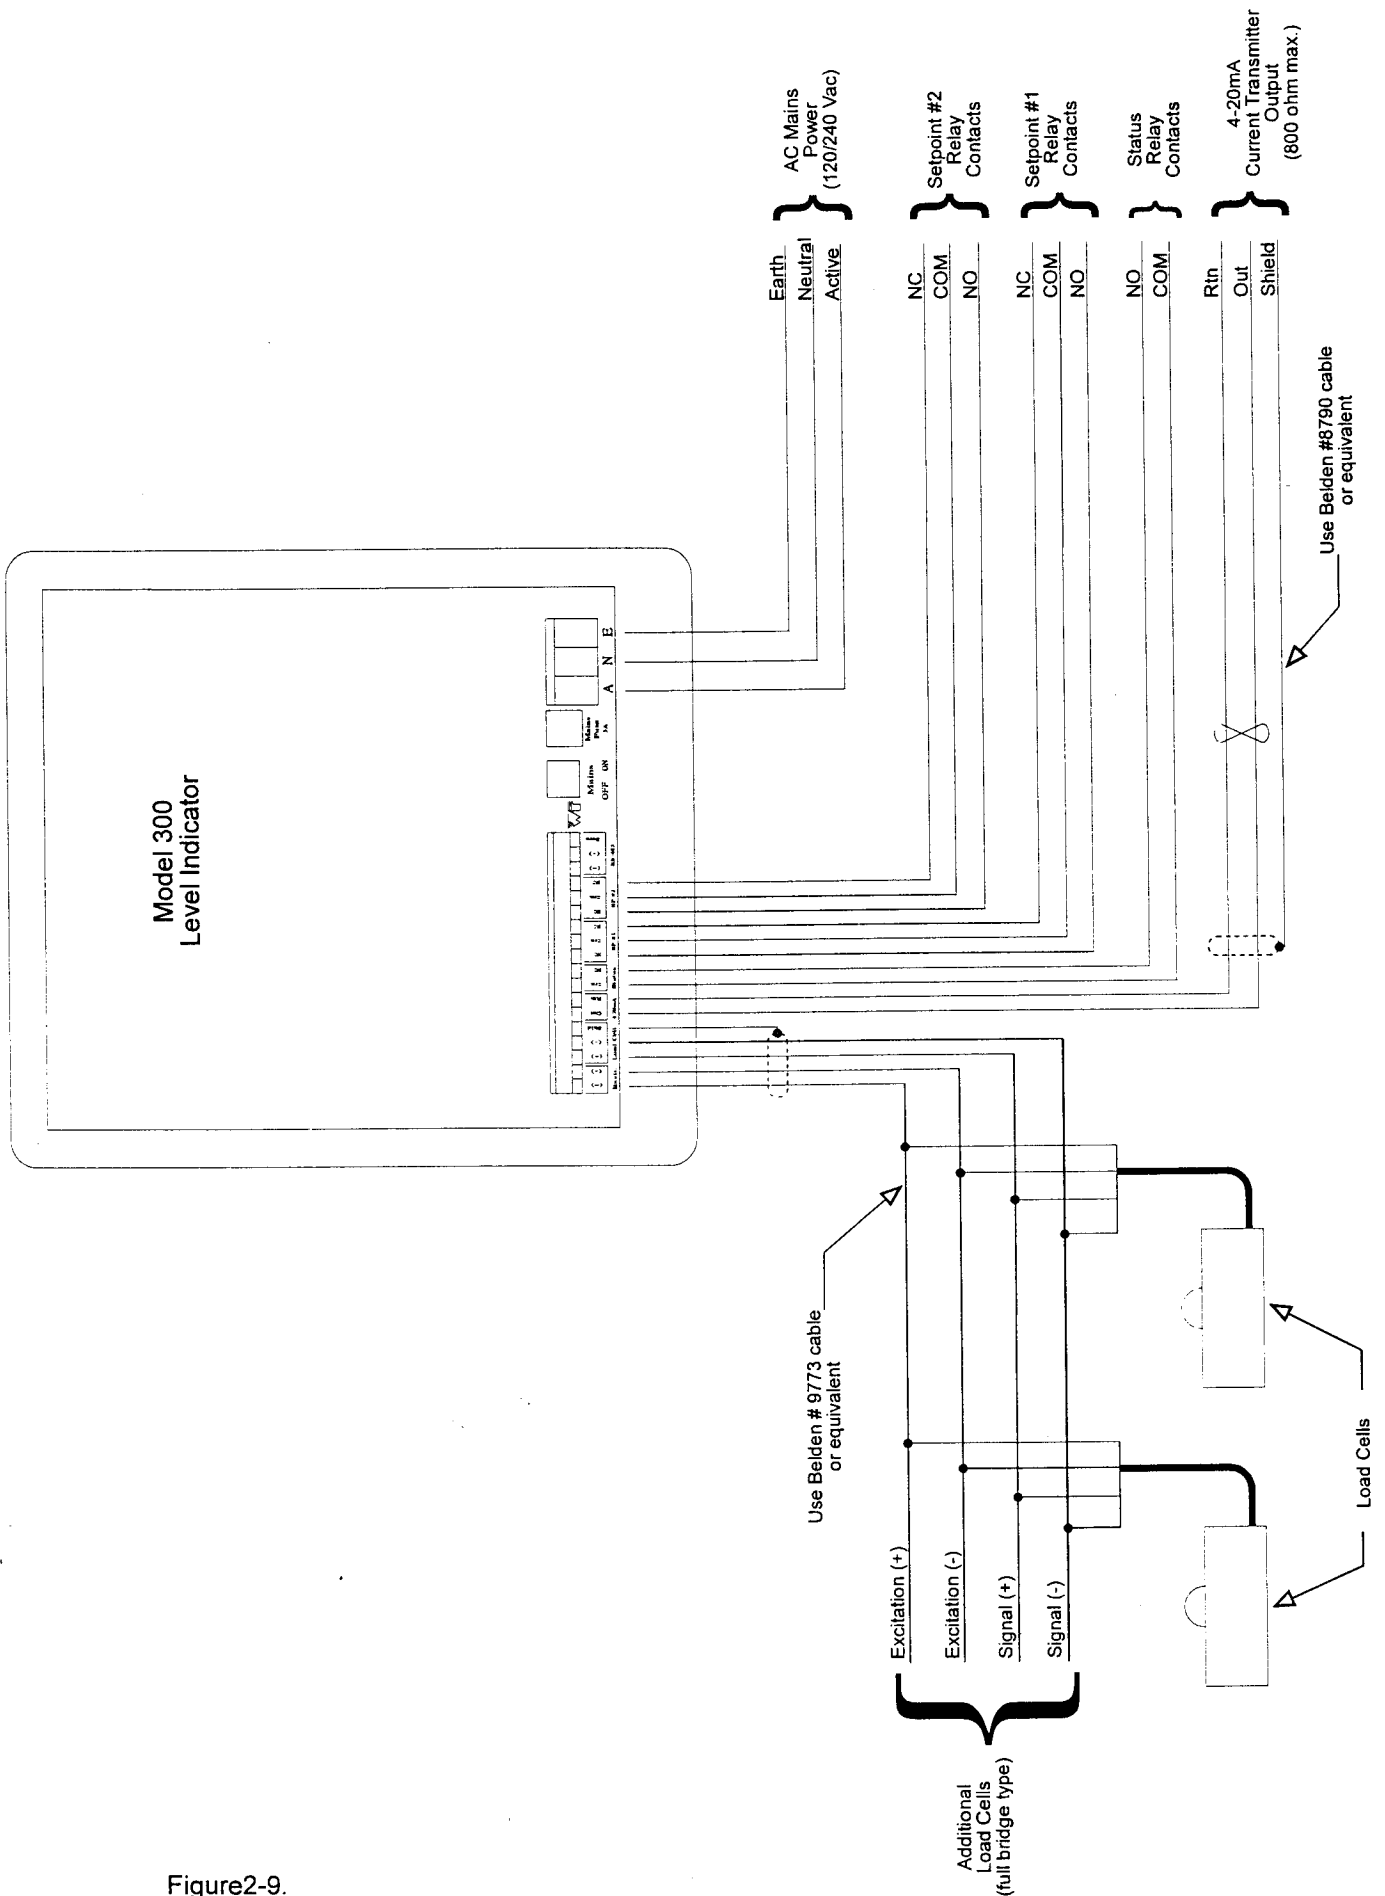
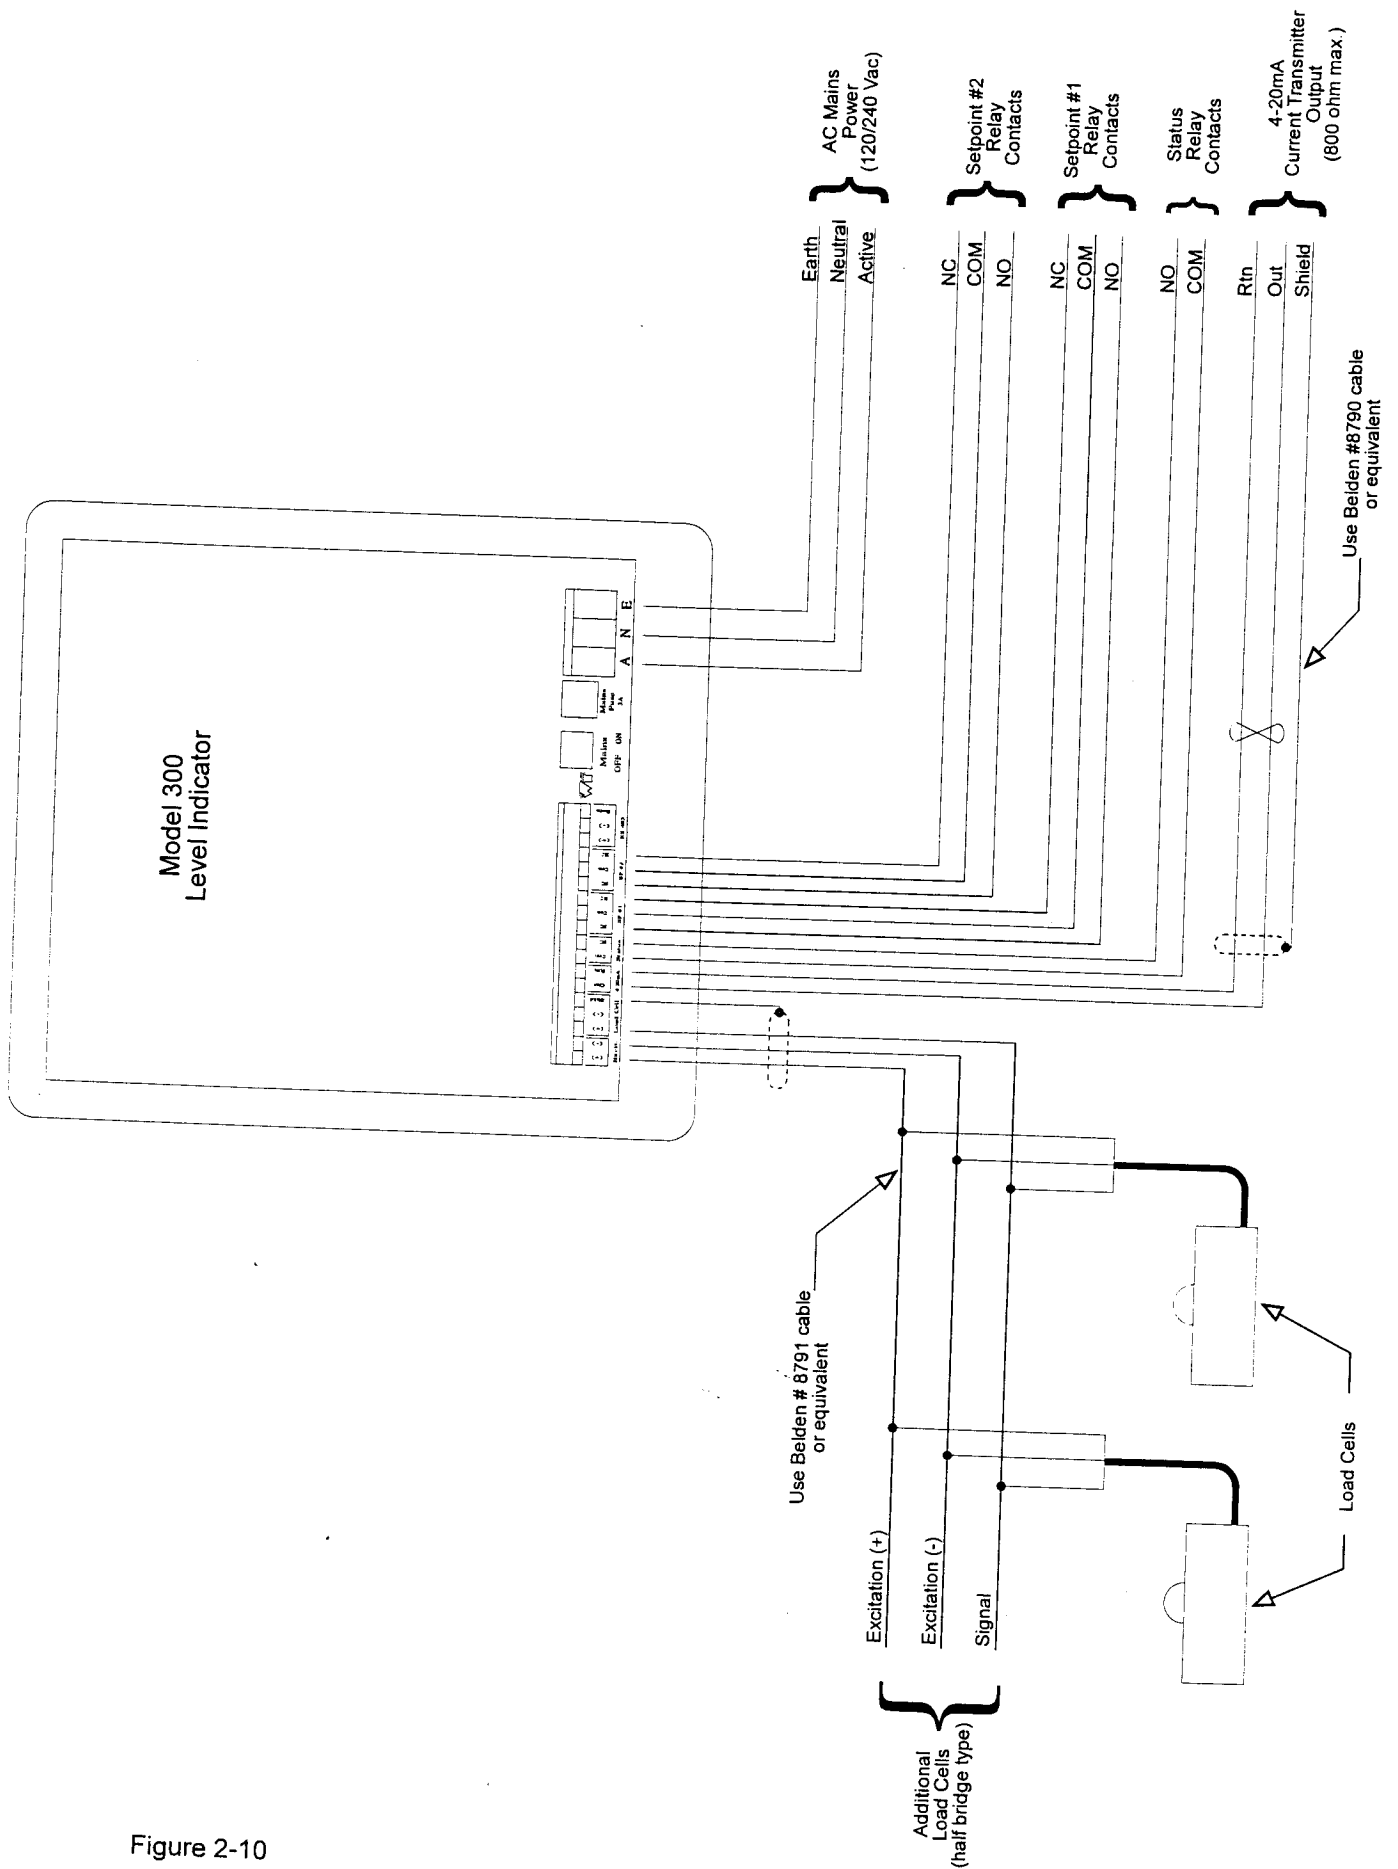
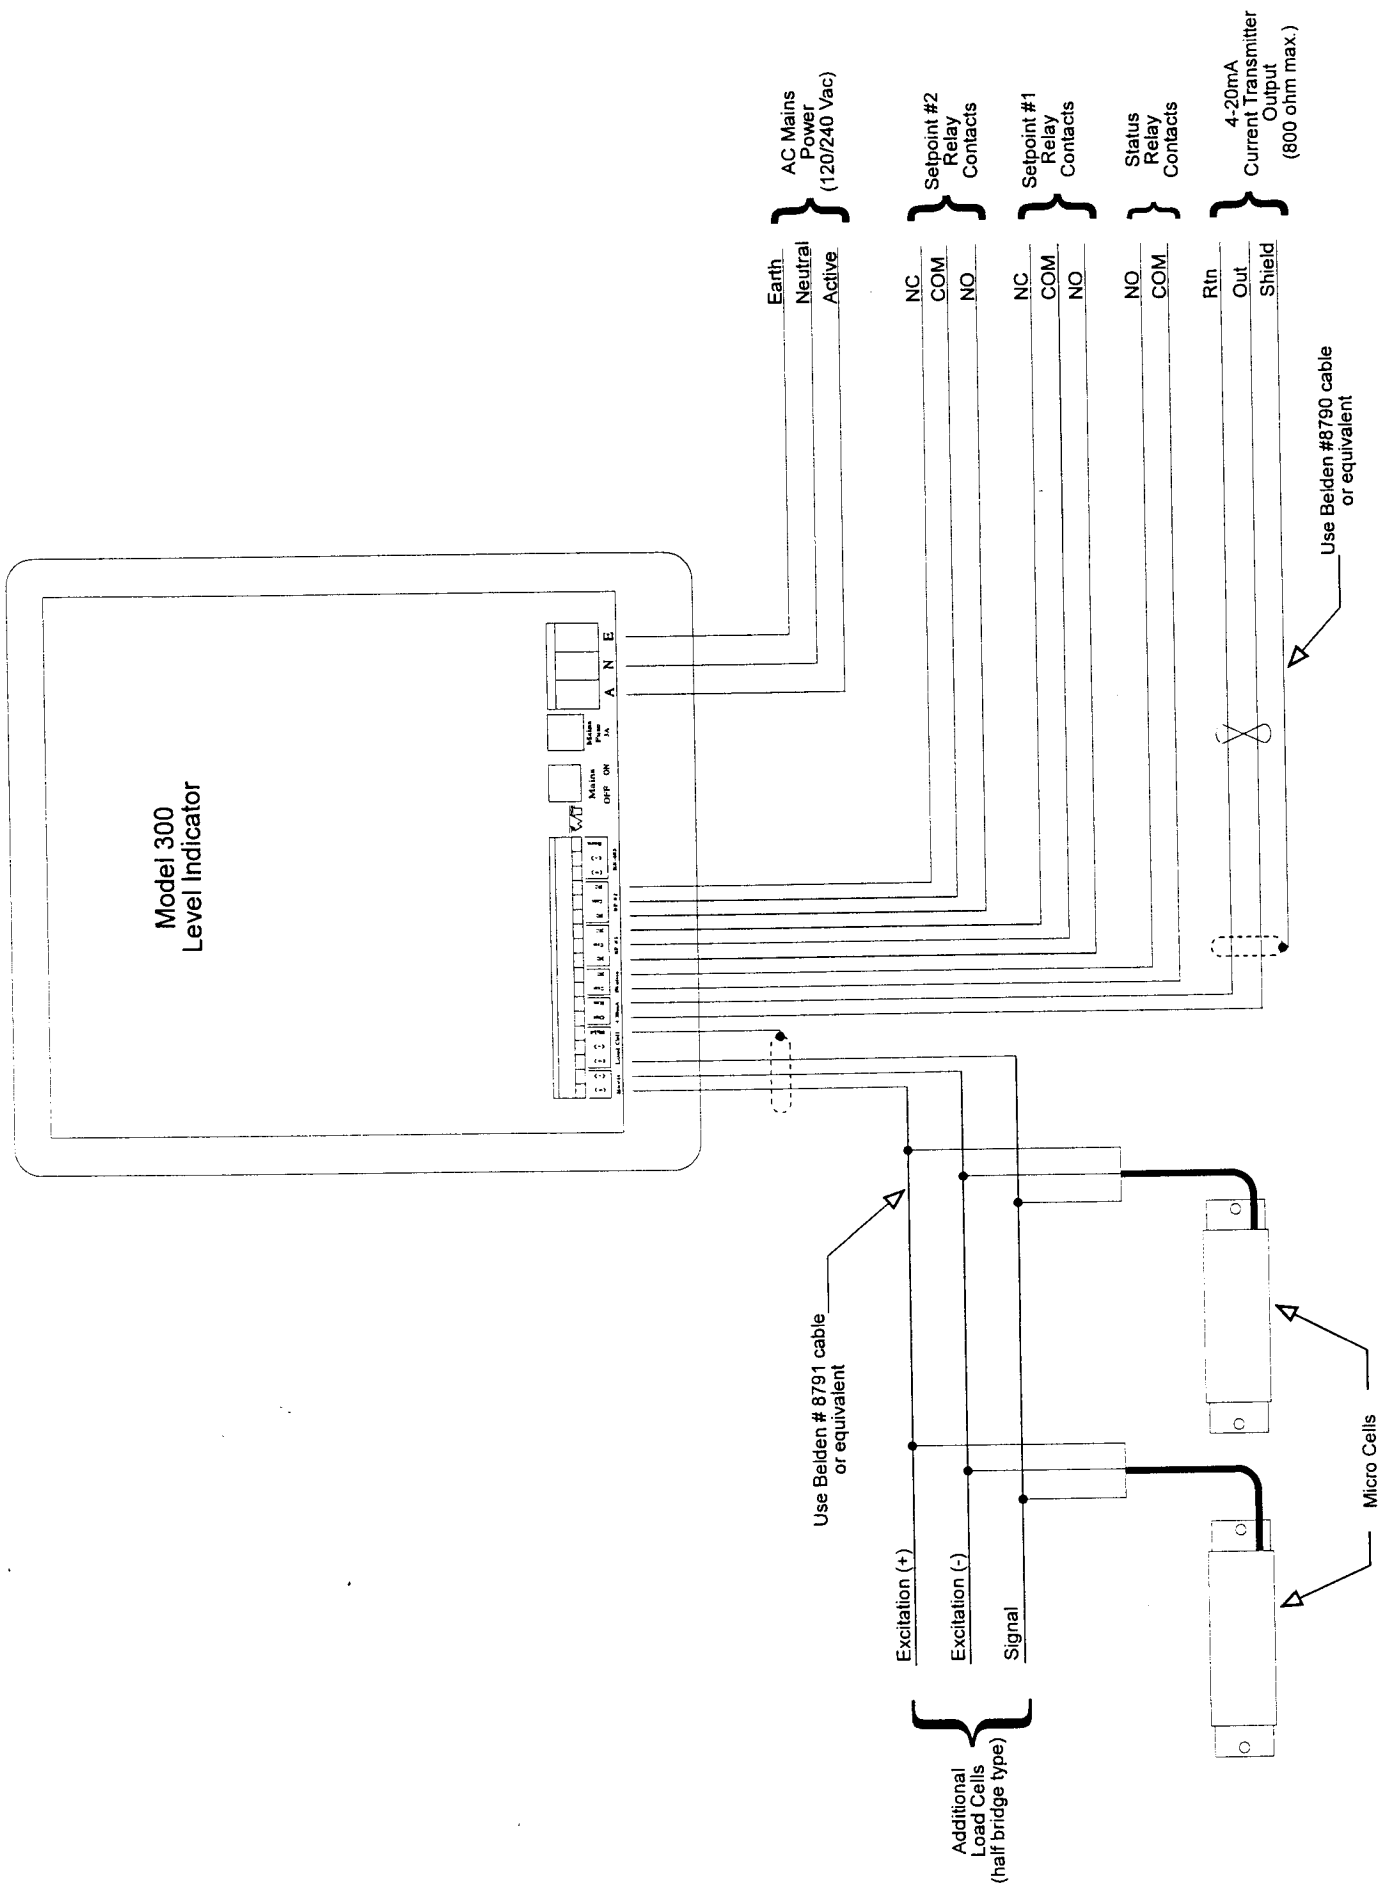

Figure2-9.
Figure 2-10
Figure 2-11
All connections to the Model 300 are made via the two terminal blocks shown in Figure 2-3 opposite. Terminal block TB1 accepts the AC power connections, while TB2 accommodates all other terminations. Refer to Figure 2-9, Figure 2-10 and Figure 2-11.
**NOTE:** If using a half-bridge type load cell, connect the signal wire to the terminal marked **Load Cell (+)**. See Figure 2-11.